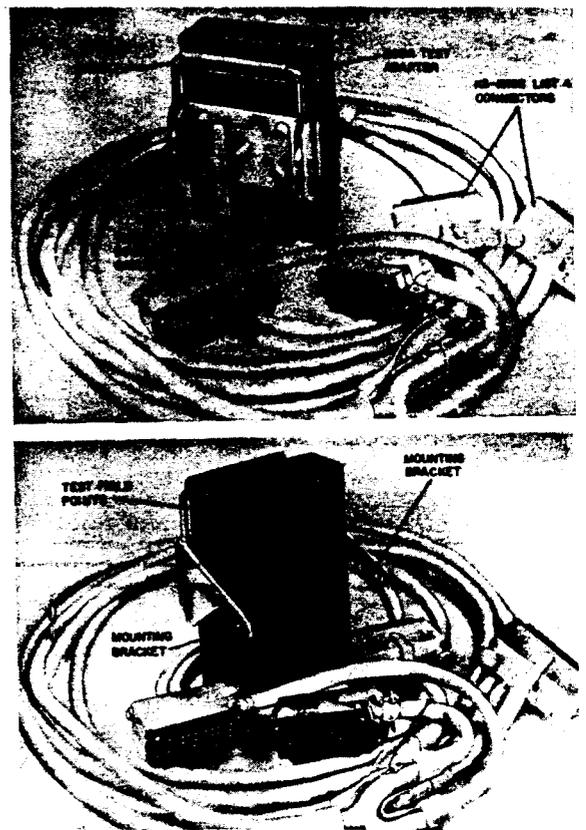

Figure 6—299A Test Adapter—For 307-Type Connectors
2.07 The 299A test adapter (Figure 6) is used to connect the 100-pair protector panel of the 307-type connector to automatic pair identification equipment. The test adapter makes contact with the outside plant T and R conductors through the test points in the top of the 4C-type protector units. If the 307-type connector is not equipped with the protector units, the contacts in the test adapter make contact with the outside plant T and R conductors through their respective jacks in the protector panel. The test adapter contains 200 (100 pairs) spring-loaded contacts that are internally connected to two 50-pair, 15-foot long cables. Each cable terminates on two 25-pair KS-19162, L4 (or equivalent) connectors for attachment to automatic pair identification equipment. The four connectors are numbered 1-25, 26-50, 51-75, and 76-100 to identify the respective cable pair count. A separate pick test panel is furnished with the 299A test adapter for single or pair-at-a-time testing. The test adapter is also furnished with a KS-22396, L1 carrying case.